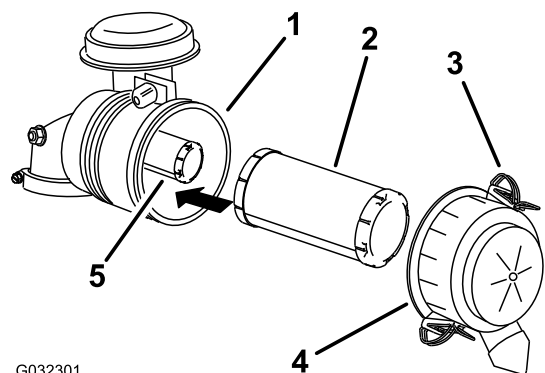

Figure 54
3. Release the latches on the air cleaner and pull the air-cleaner cover off the air-cleaner body (Figure 54).
5. Gently slide the primary filter out of the air-cleaner body (Figure 54).
2. If you are replacing the safety filter, carefully slide it into the filter body (Figure 54).
3. Carefully slide the primary filter over the safety filter (Figure 54).
4. Install the air-cleaner cover with the side indicated as **up** facing upward and secure the latches (Figure 54).